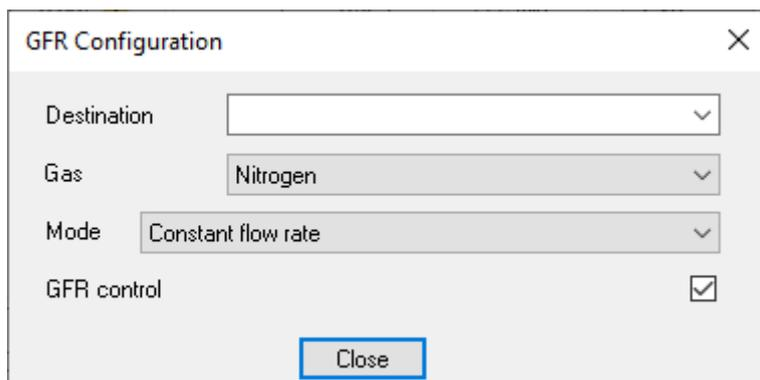

Fig. 37: GFR Configuration > GFR Control
- In the *Configuration* window, navigate to the *Gas flow regulators* section and select the GFR. The *GRF Configuration* window opens. (Fig. 37).